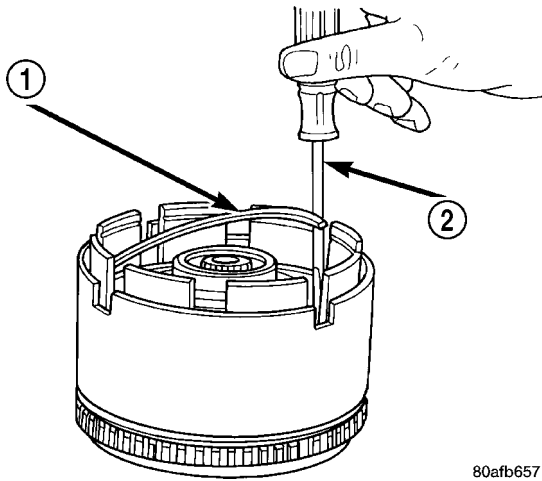

Fig. 259 UD Clutch Flat Snap Ring
(11) Install the UD clutch flat snap ring (Fig. 259).